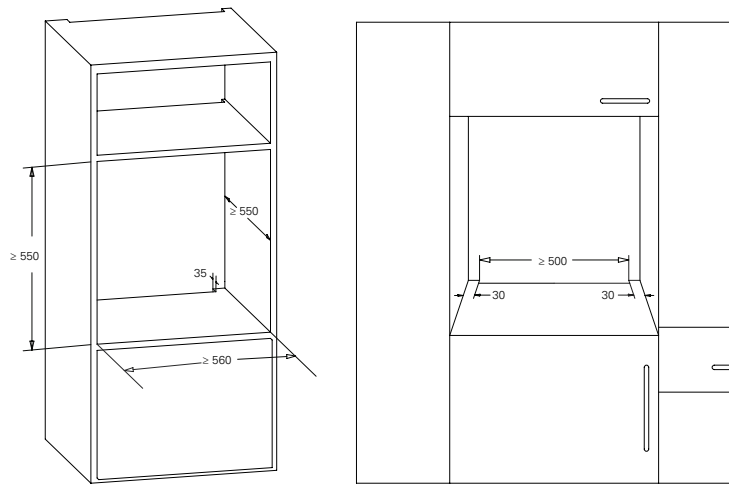

Figure 5
- The space must match the dimensions provided in figure 5.
- The clearances with the dimensions indicated in the figures 5 must be provided at the rear part of installation space, upper and lower sections so that necessary ventilation can be achieved.